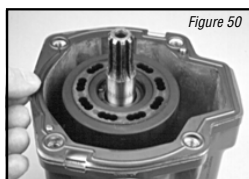

Figure 50
**21** Hold the housing assembly in the vertical position then carefully install the rotating kit by first aligning with the splines on the input shaft. With splines aligned, install the rotating kit into the pump housing (see Figure 50). Use caution to ensure all parts are kept in their proper position.
**22** With the rotating kit installed, reposition the housing assembly in the input shaft down position and install a new housing gasket (see Figure 50).